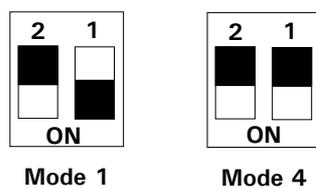

FIGURE A-3 DIP Switch Settings Mode 1 and Mode 4
- **Input Mode 1** (two line control)- the position of the Nano valve is defined by the status of Input A and the status of Input B as follows: Input B connected to Ground will drive the valve into position 6-1 while Input A connected to Ground will drive it back to position 1-2. DIP switch #2 must be switched to OFF and DIP switch #1 to ON (FIGURE A-3, Mode 1).
- **Input Mode 4** (inverted mode 3) - the position of the micro valve is controlled by the status of Input A while Input B is used to enable/disable the micro valve. Input A connected to Ground will drive the micro valve into position 1-2 (normal mode) while an open input will drive it to position 6-1 (parking mode). Connecting Input B to Ground disables the valves while an open input will enable it. The DIP switches #2 and #1 must be switched to OFF (FIGURE A-3, Mode 4).